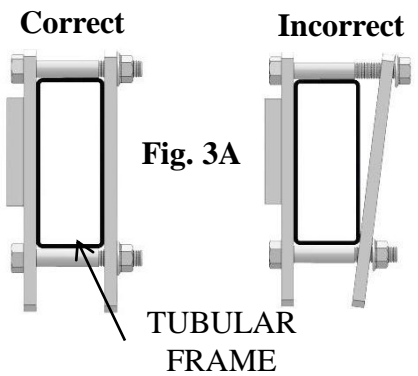

Fig. 3A
- Torque nut (P) and bolt (Q) to 75 ft.*lbs. Tighten them evenly. Do not tighten one all the way before tightening the other. Tighten evenly. See fig 3A. Inner strap (N) will bend if done incorrectly.